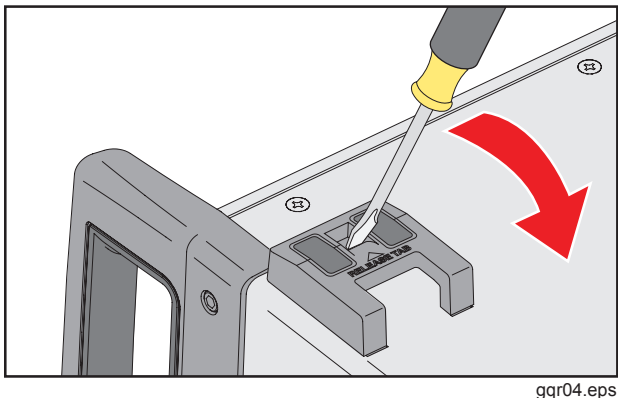

Figure 2. How to Remove the Anti-skid Feet
2. Remove the four Anti-skid feet on the bottom of the Calibrator as shown in Figure 2.